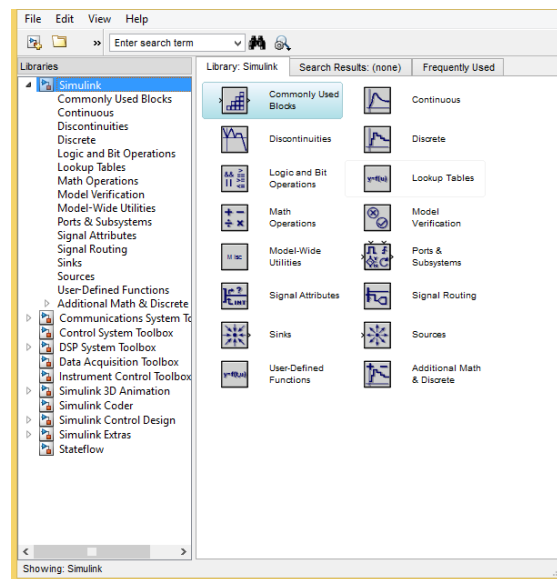

Figure 1 - Simulink Library Browser
This will open the **Simulink Library Browser**, as shown in Figure 1.
1. Gather the necessary blocks from the Simulink Library Browser (refer to Figure 1)